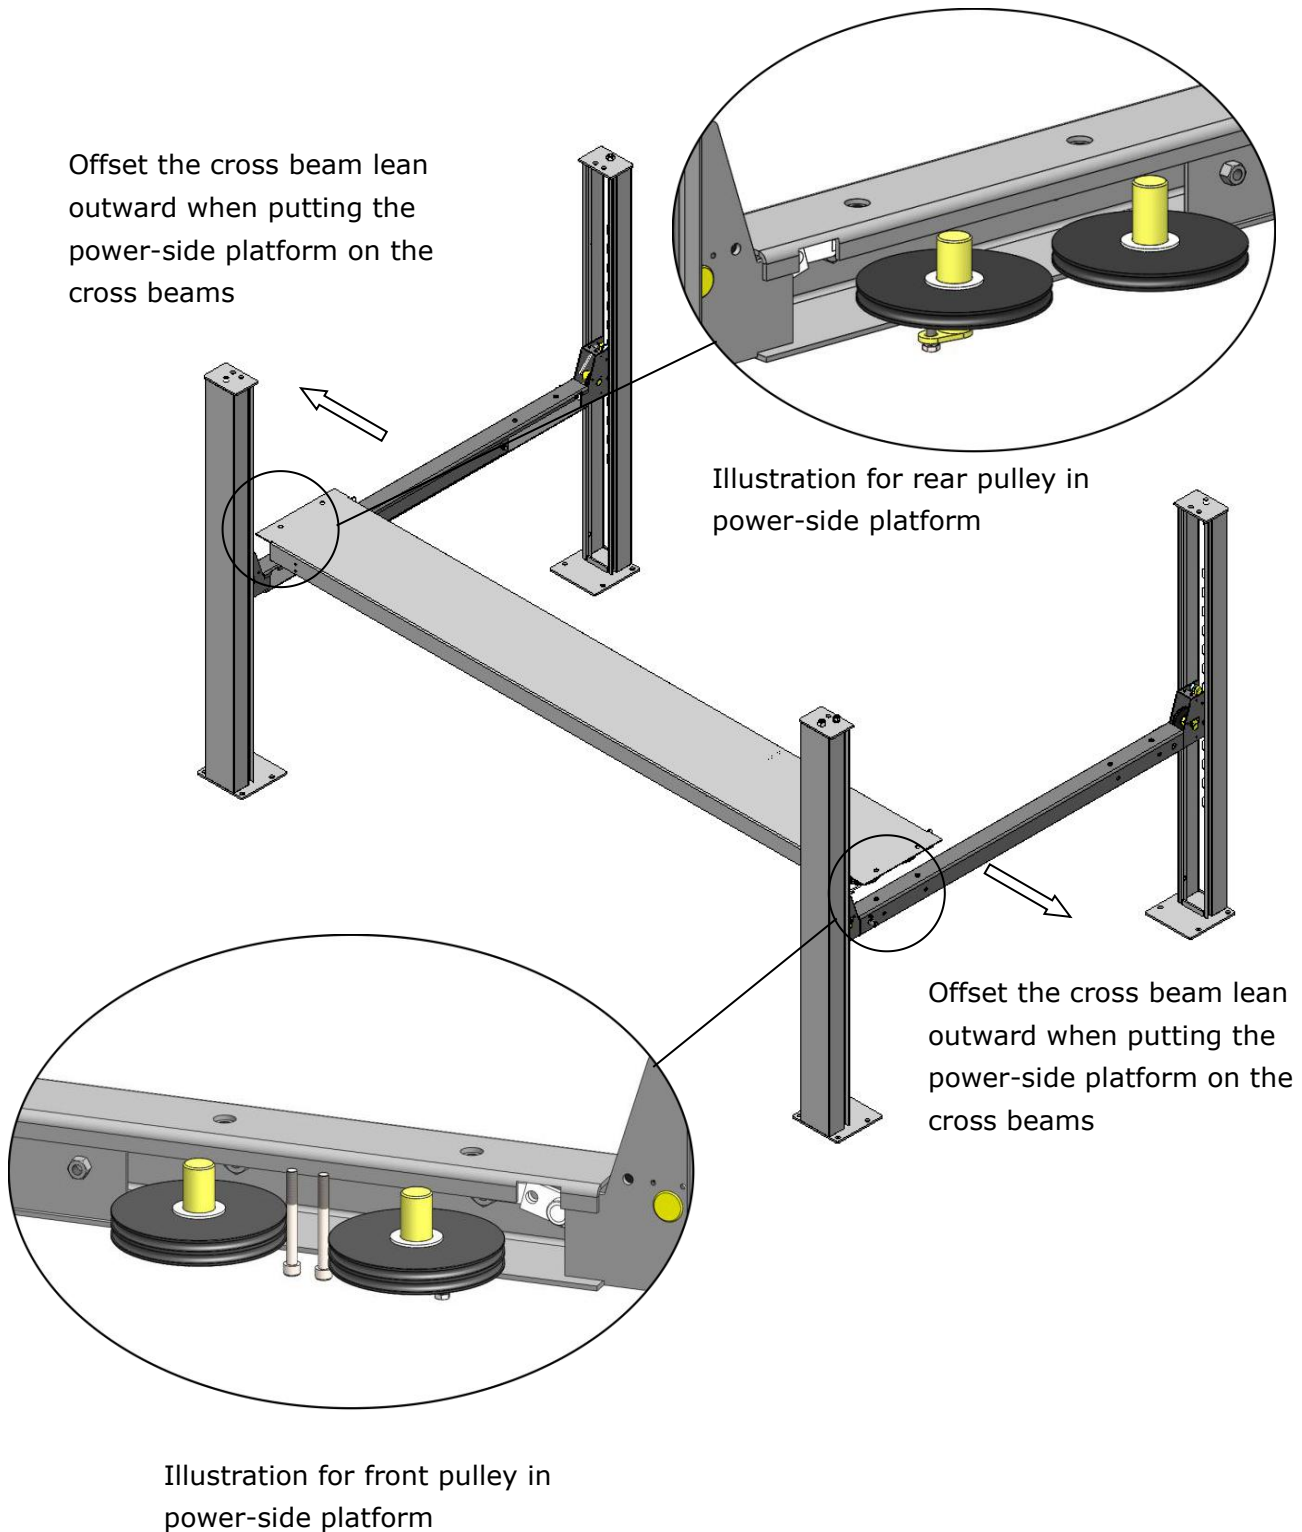

Fig.17
1. Raise the power-side platform above the cross beam by a forklift or crane. Then move the cross beam outwards until the pulleys of both platforms can be rested into the cross beams' slots (see **Fig.17**). Tighten the Power-side Platform to the Cross beams by using bolts.